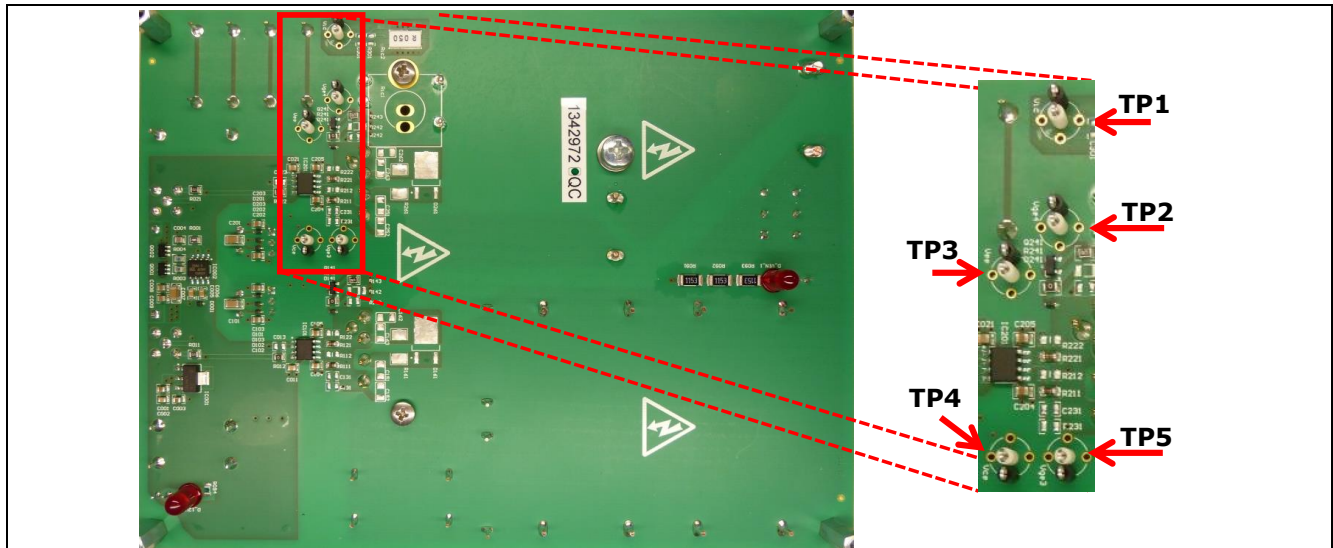
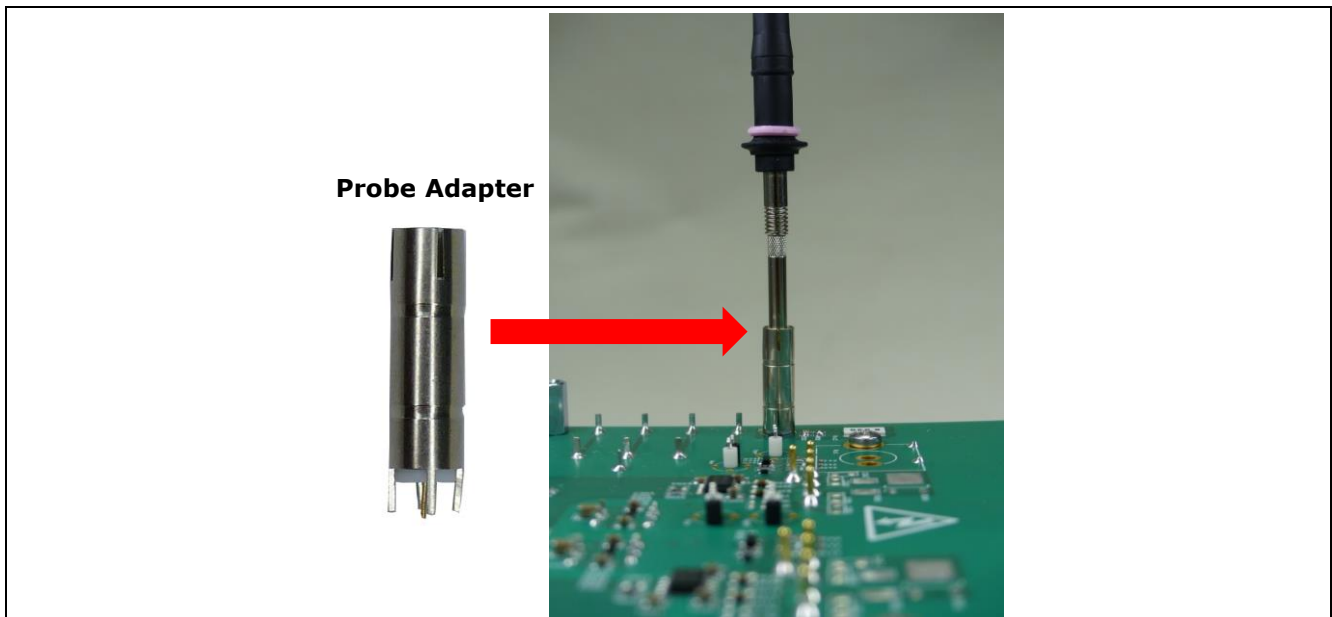

Figure 12 Detailed view of the test points on the back side of the Eval board
Figure 13 Probe adapter soldered on the Eval board
The most relevant signals of the Eval board are available for measurement through test points. In total, there are five test points, all located on the bottom side of the Eval board as can be seen in Figure 12.
For a correct sensing of the emitter current, it is recommended to use the probe adapter contained in the Eval board’s case. This avoids oscillations and enables a more accurate measurement of the switching energy. This adapter shall be soldered on the test point **TP1**; please refer to Figure 12. Figure 13 shows how the oscilloscope probe shall be connected through the adapter.
6. Only for **Conf. 2**: Place the coaxial shunt as depicted in Figure 13. More details to be found in section 4.2